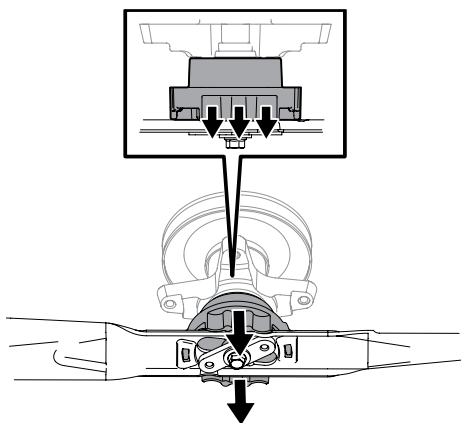

Figure 4-12
6. There will be an audible click when the blade is properly locked in place. See Figure 4-12.